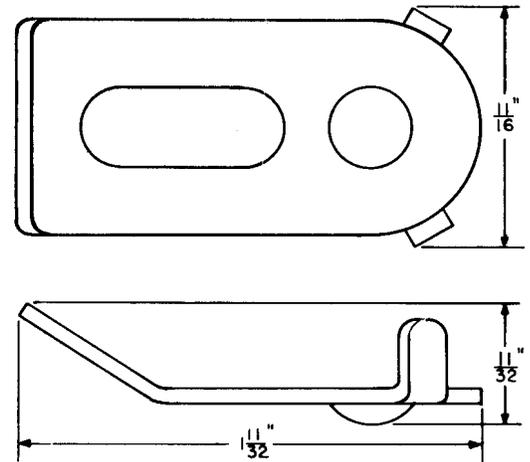

Fig. 2—427A Shaft Support Tool
2.02 **427A:** The 427A shaft support tool (Fig. 2) is used on vertical drive shafts.